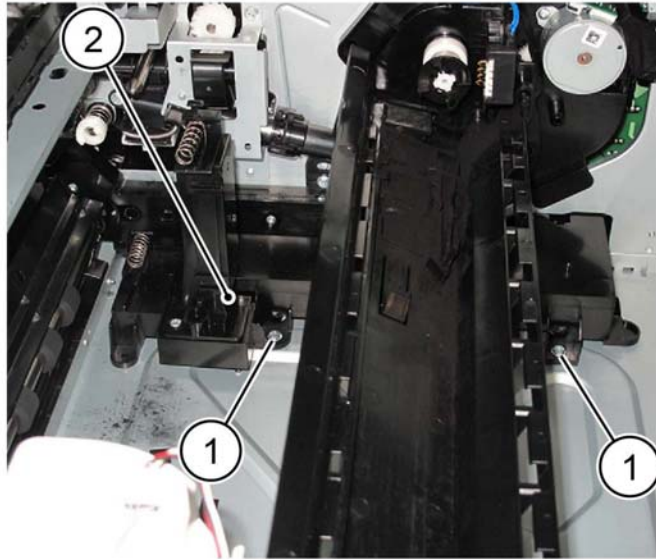

Figure 3 AC housing assembly removal
7. Remove the AC housing assembly, Figure 3:
- a. Remove two screws (1).
- b. Remove the AC housing assembly (2).